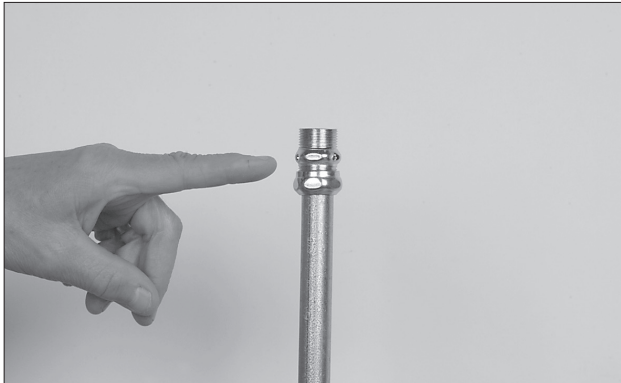

FIGURE 5-91
6. Remove the union nut and ring. Discard the ring. Do not reinstall the nut at this time. See Figure 5-91.